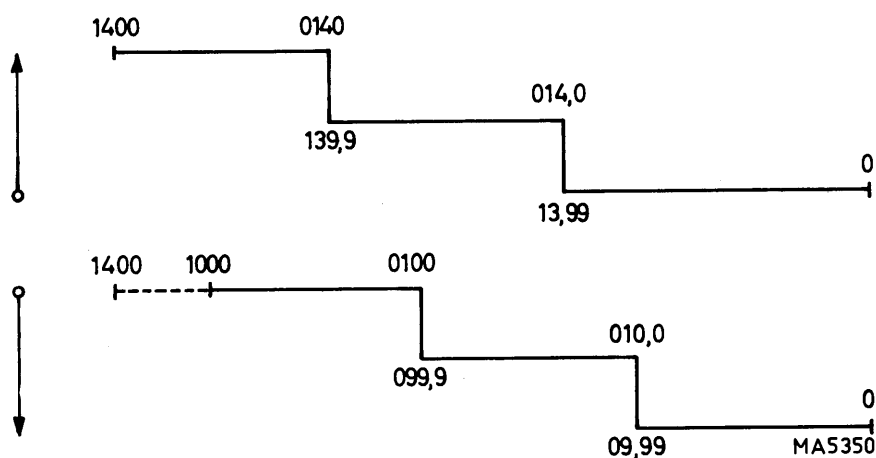

Fig. 50. Checking the range selection
- 6.1.7. Slowly reduce the voltage. At 0100 mV the reading will change from 0099 to e.g. 099.9 (Fig. 50).